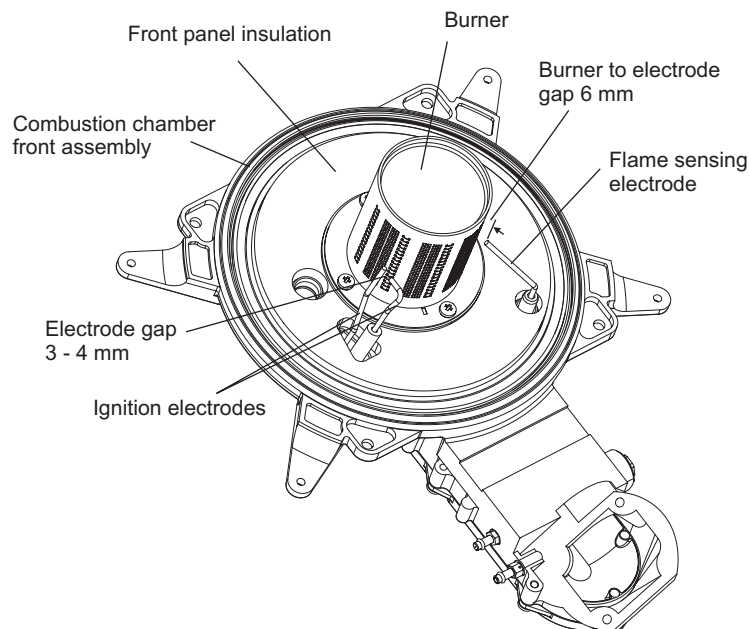

Fig. 29
6. Remove the four screws securing the burner (see Fig. 29) and remove the burner. Clean the burner with a soft brush and check that the flame ports are clear. Blockages may be removed with a stiffer brush. Tap the burner, open end down, to remove any deposits from inside.
8. Check the spark gap, positioning and height of the electrodes, see Fig. 29.
5. Place the front case panel in position and secure in position with the four screws previously removed, see Fig. 29.
7.4 MAIN BURNER - Fig. 29